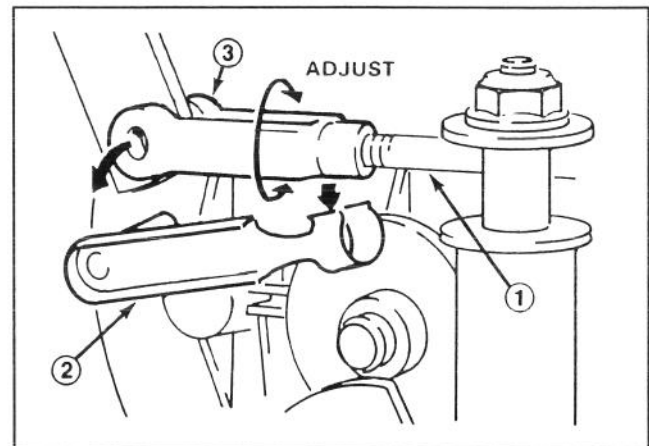

Figure 19
14. Locate the deck engagement rod end on the left side of the transmission (Fig. 19). Remove the clevis pin retainer and turn the clevis to lengthen or shorten the rod until you attain the desired clearance between the belt and pulley.